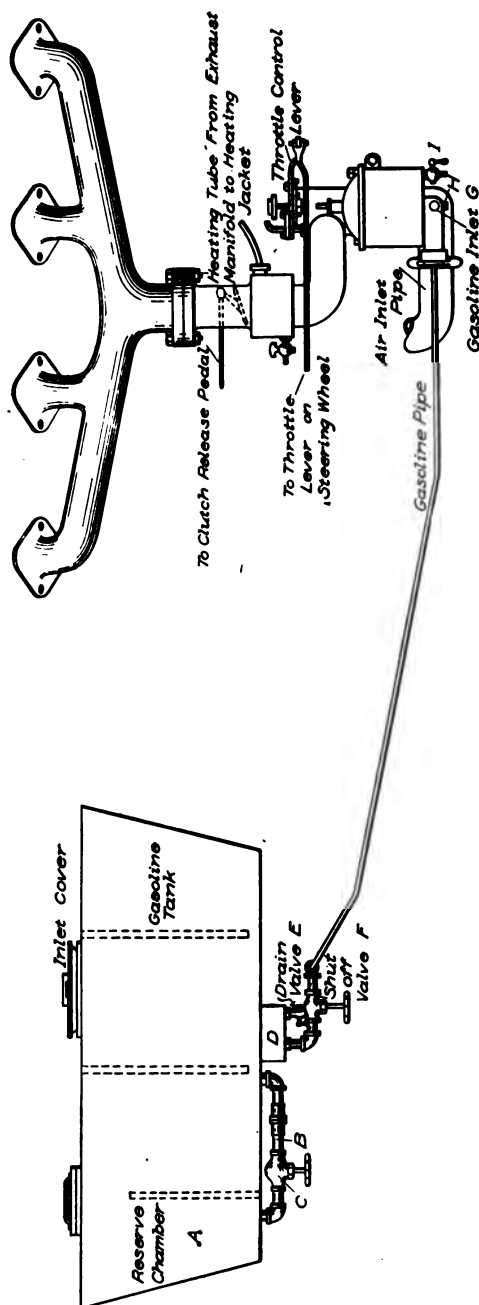

Fig. 65. Gasoline System of Thomas Flyer. E. R. Thomas Motor Company, Buffalo, N. Y.
Fig. 65 shows the gasoline system of the Thomas Flyer, made by the E. R. Thomas Motor Company, Buffalo, N. Y. The gasoline tank is placed under the forward seats, and contains twenty gallons. On the extreme left of the tank, a *Reserve Chamber (A)* is partitioned off. It is connected by a pipe *B* to the main chamber. The valve *C* in this pipe should be kept closed until it is necessary to admit the gasoline in the reserve chamber, which holds one gallon. The *sediment and water receptacle (D)* is shown at the bottom of the tank, which is drained by the valve *E*. There is also a shut-off valve in the line to the carbureter (*F*), which should be closed after the day's run, so as to cut off the